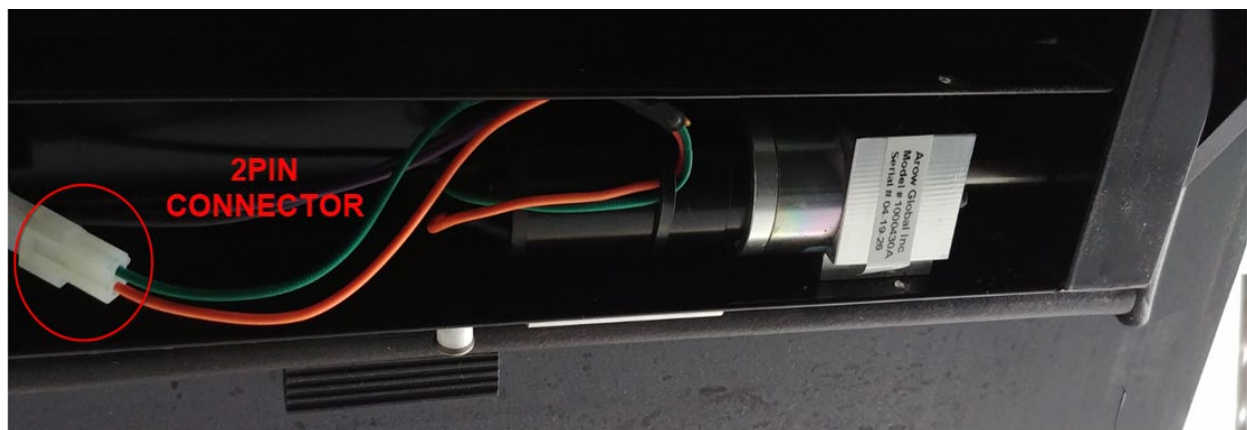

FIGURE 2: MOTOR CONNECTOR
- Disconnect the motor (2 PIN connector – Figure 2).